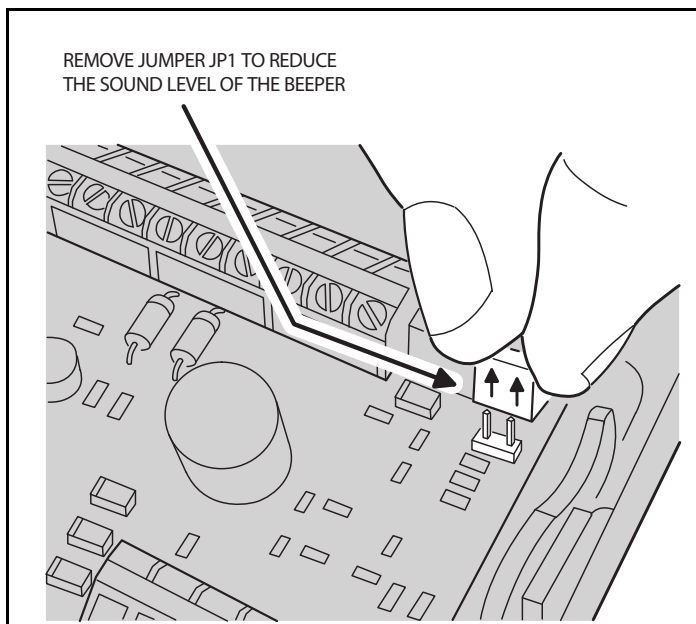

Figure 8. Removing Beeper Jumper
- If the keypad's beeper is too loud for the keypad's location, remove jumper JP1 (see Figure 8).